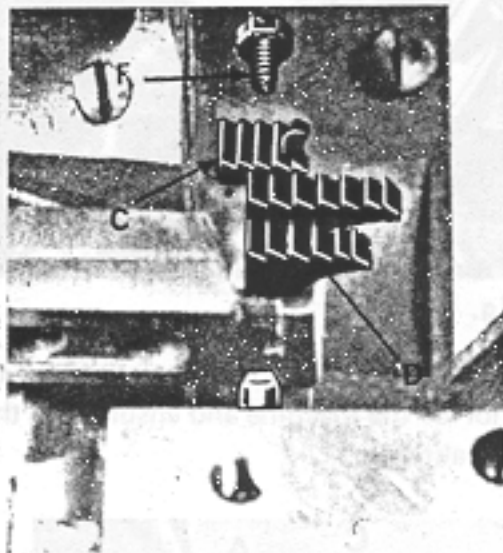

fig.12
### 8. Fitting and adjusting feed dogs (figs. 12 and 13).
- Fit the rear feed dogs C and D (fig. 12) and match the feed dog slides.